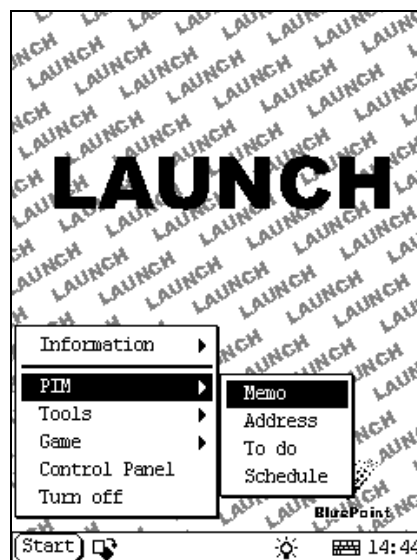

Figure 4-15
- 3) Select the function needed in the pop-up list. See Figure 4-15.